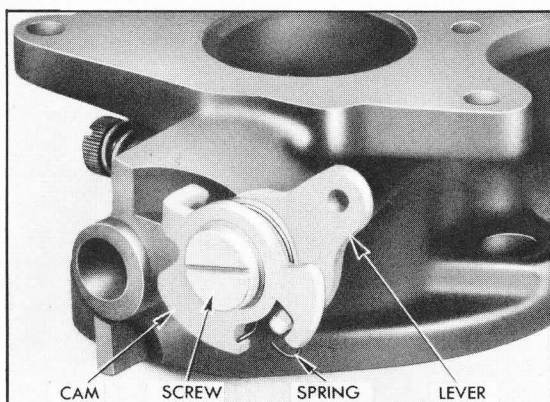

Figure 3-52—Fast Idle Cam, Spring and Trip Lever
22. Remove fast idle cam and cam trip lever from body flange. See figure 3-52.
over attaching screw so that tongue on trip lever is located in notch in cam under hooked end of cam spring, then install parts on body flange. See figure 3-52.
13. Install both low speed jets; no gaskets are used. Install float needle seat with new gasket, using large screw driver. Tighten seat firmly but not so tightly as to cause distortion. See figure 3-52.